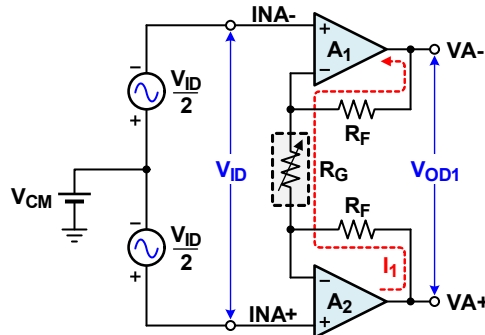

Figure 3. Differential Input Stage
- Figure 3. Differential Input Stage 3